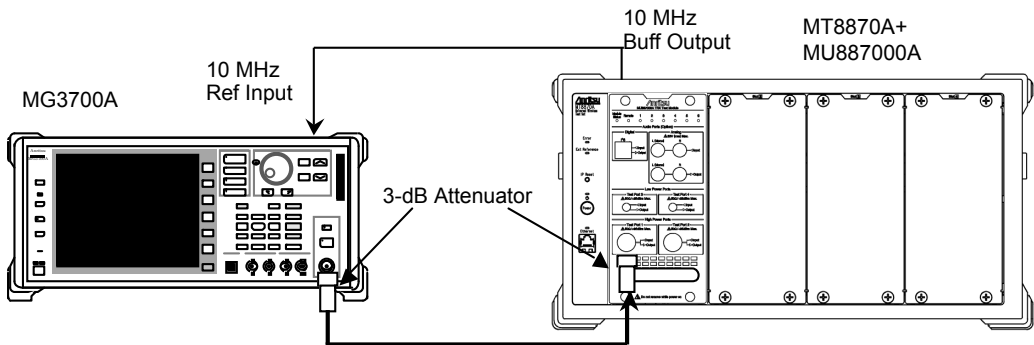

Figure 4.3.4-1 Setup for Measuring Adjacent Channel Leakage Power Ratio
- (4) Test procedure
- 1 Setup the instruments as shown in Figure 4.3.4-1.
1. Setup the instruments as shown in Figure 4.3.4-1.